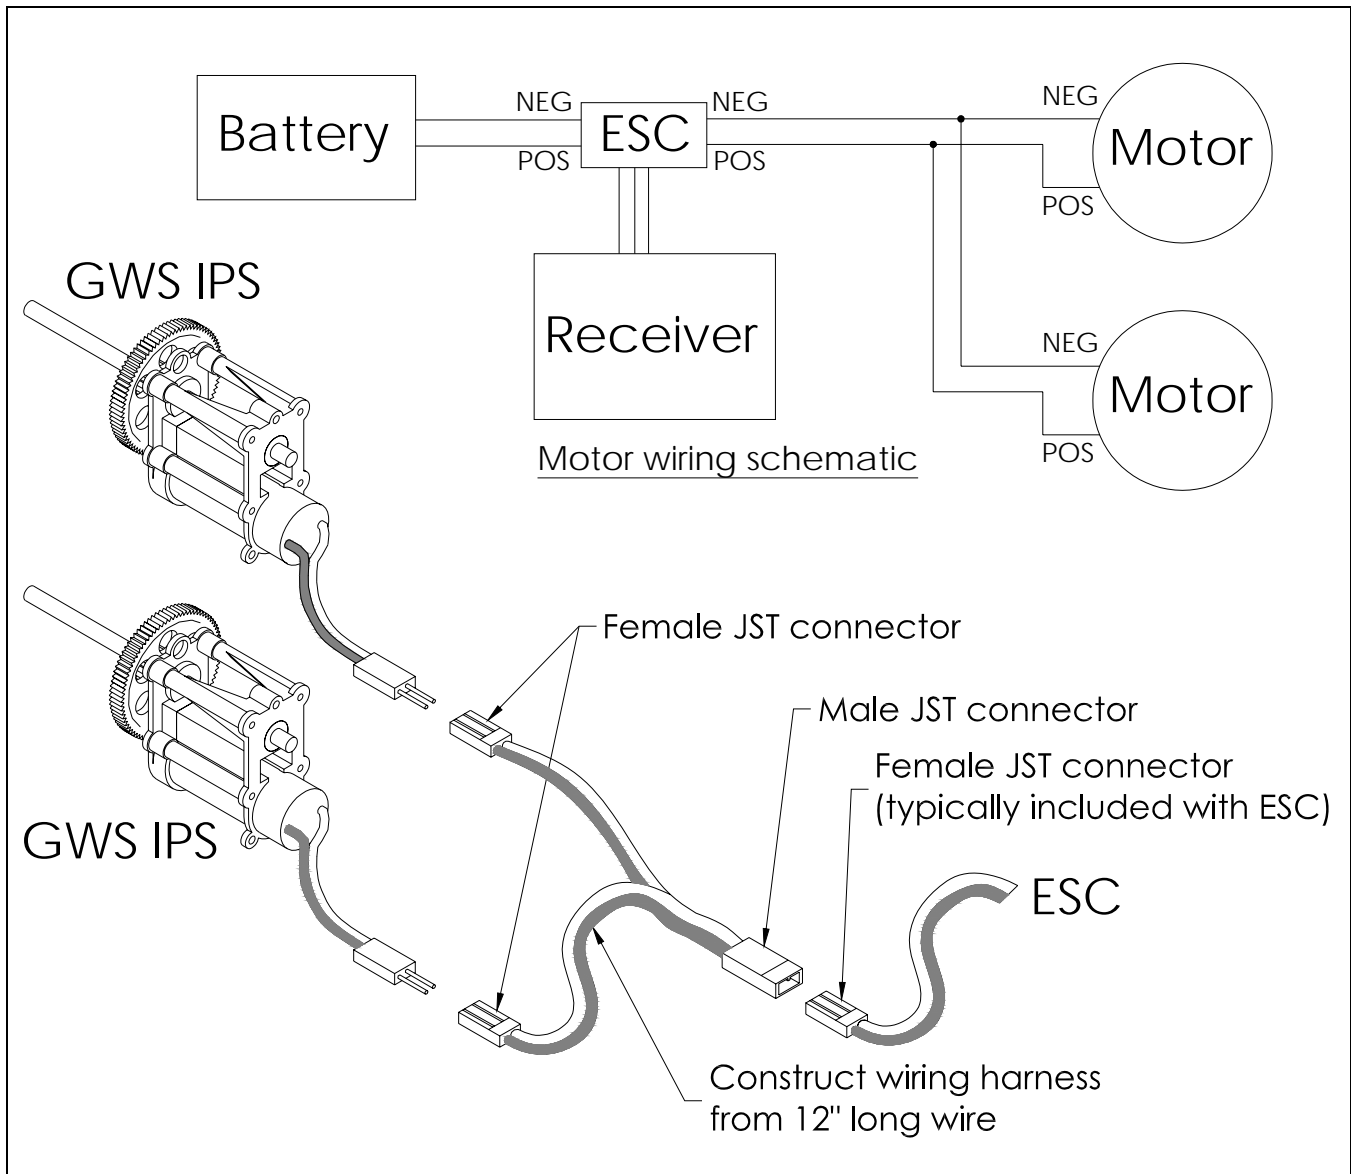

Figure 41
- ❑ Build the motor wiring harness as shown in Figure 41. The motors are wired in parallel.